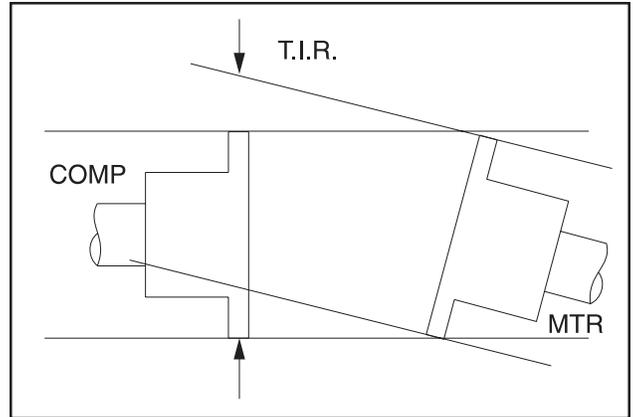
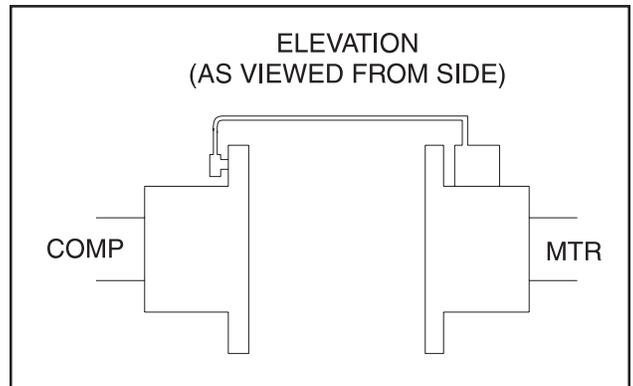

Figure 2 - Angular Misalignment
Figure 3 - Dial Indicator Attached (at 12 O'clock)
1. To check angular alignment, as shown in Figure 2, attach dial indicator rigidly to the motor hub. Move indicator stem so it is in contact with the outside face of compressor hub, as shown in Figure 3.
3. Set the dial indicator at zero when viewed at the 12 o'clock position, as shown in Figure 3.